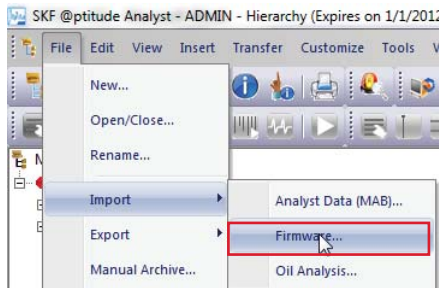
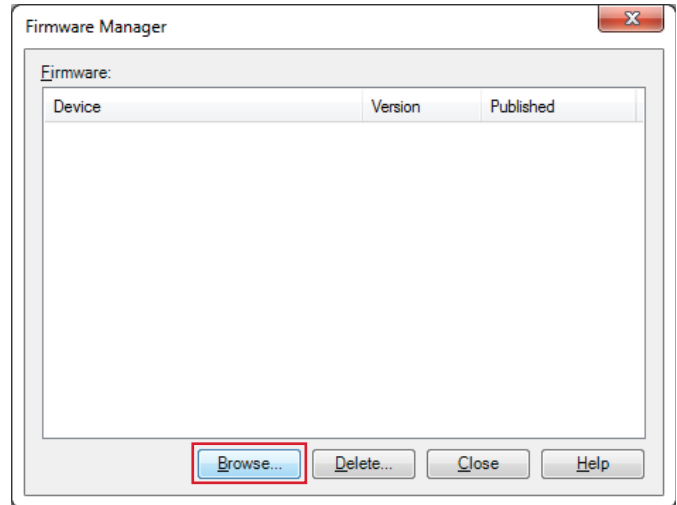

Fig. 24. Go to File / Import / Firmware.
Fig. 25. Click Browse.
- From SKF @ptitude Analyst, go to **File / Import / Firmware** (→ fig. 24) and click **Browse** (→ fig. 25).